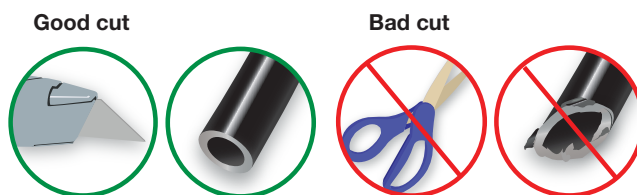

Fig. 28
2. Make clean, square cuts with a razor blade or hose cutter when cutting the air line (AA) (Fig. 28). Do not use scissors or wire cutters.